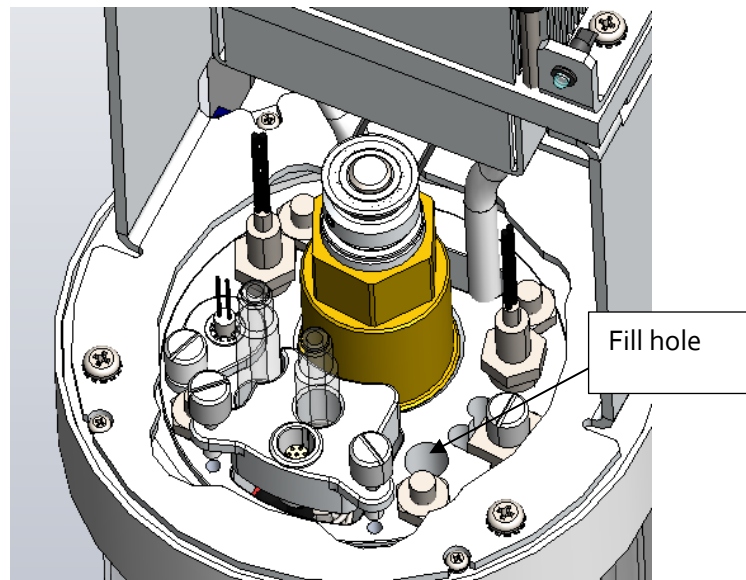

Figure 6 — Bath Top (Fill Hole)
4. Insert the funnel into the thermometer hole in the top of the bath to be filled. See Figure 6.